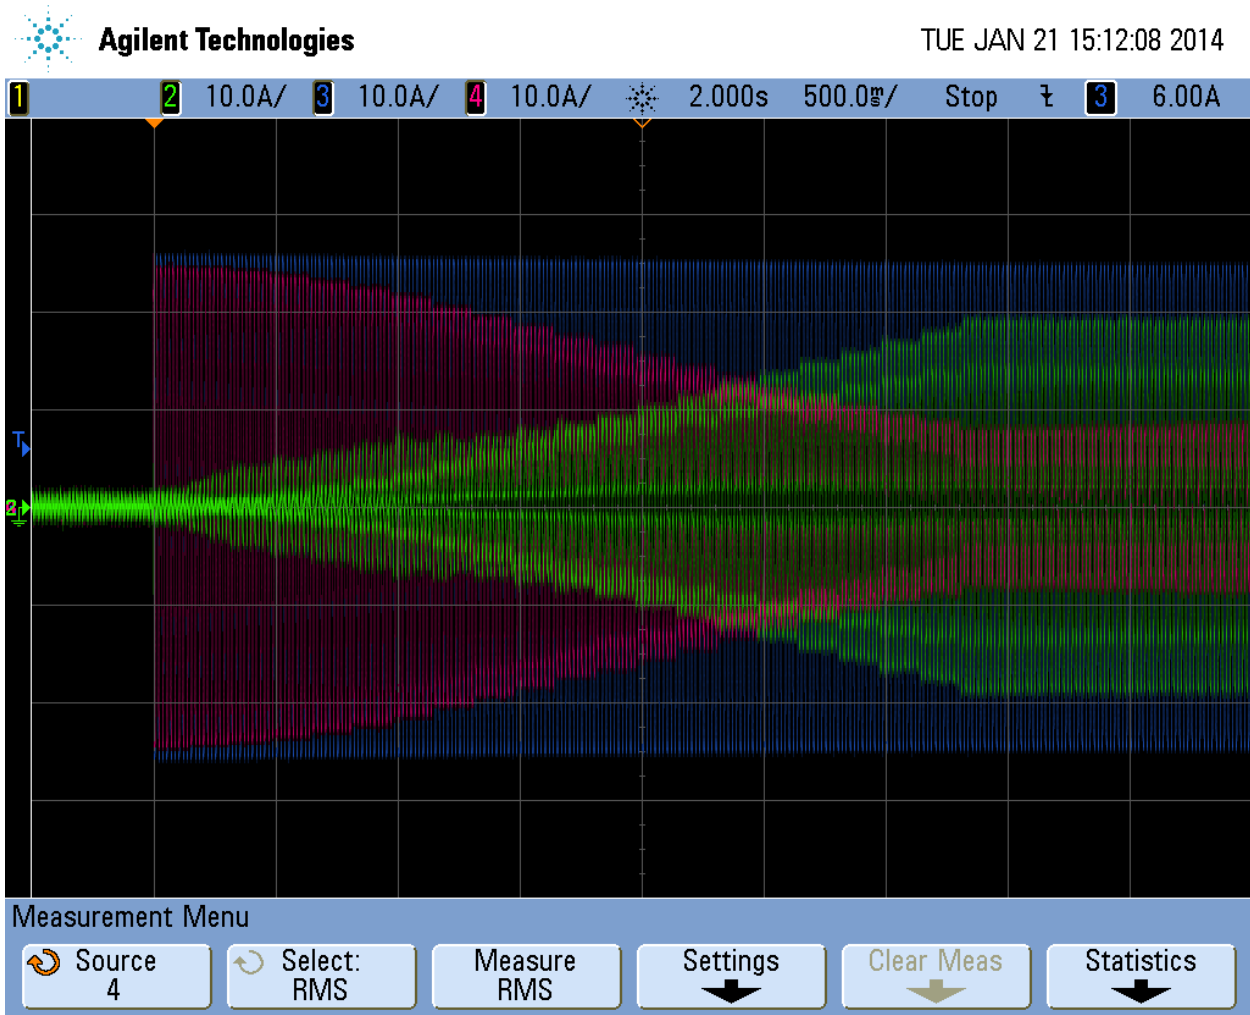

Figure 1
**How it operates:** In GridZero mode, the Radian inverter powers the home's loads primarily from battery (and renewable) energy while remaining connected to an AC source. Using the DC sources, the inverter attempts to decrease the use of the AC source to zero. The inverter only draws on the AC source when loads to the battery exceed the preselected values (see figure 1).